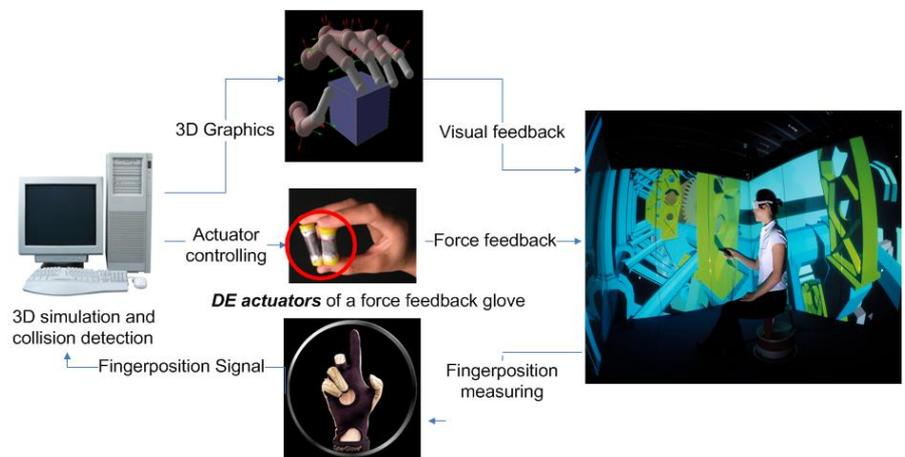

Figure 1 Touch Virtual Reality: Force feedback glove with dielectric elastomer actuators
Force Feedback Devices (FFD) enable users to touch and to manipulate virtual objects in a virtual environment (Fig.1). A lightweight, portable and non-obstructive force feedback glove is highly demanding in the field of virtual reality. The bottleneck of such a glove is to design and develop actuators with high energy density. In the last decade, great attention has been paid on Dielectric Elastomer (DE) actuators as they preliminarily exhibit similar characteristics to human muscles.
As shown in Fig.1, mini spiral-spring roll DE actuators ($\Phi 12mm*40mm$) with max. 7 N blocking force and 11% free strain have been made and tested at EMPA Dübendorf. To demonstrate a force feedback glove based on the DE actuator in virtual reality, a simulation including finger position sensing (CyberGlove), 3D virtual hand and object, collision detection, and force rendering has been done. Implementation and controlling of the actuator through computer need to be done in this study.